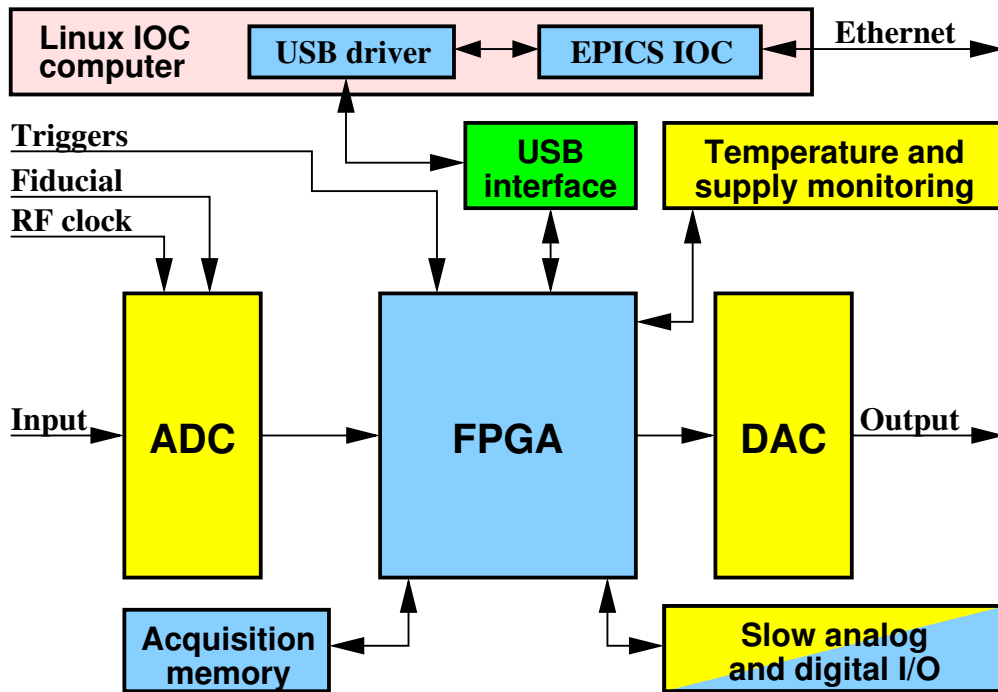

Figure 1: iGp12-372F block diagram
A top-level block diagram of the iGp12-372F system is shown in Figure 1. The main signal processing chain consists of a high-speed 12-bit analog-to-digital converter (ADC), a field programmable gate array (FPGA), and a high-speed 12-bit DAC, all driven by the radio frequency (RF) clock. In addition to performing real-time control computations, the FPGA interfaces to a number of on-board devices, such as high-speed data acquisition memory (static random access memory (SRAM)), low-speed analog and digital input/output (I/O), as well as temperature and supply voltage monitors. In turn, the FPGA uses an internal universal serial bus (USB) connection to communicate to an embedded input-output controller (IOC) computer housed in the same chassis. The IOC runs the Linux operating system and is connected to the overall control system via the Ethernet.